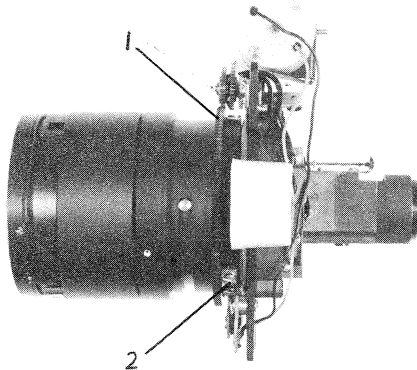

Fig. 39
- 7-2-10. Wrong position of auto-stopper may cause zooming to stop before reaching 34mm and 8.5mm. It will be corrected by moving forward or backward the auto-stopper illustrated in 2 of Fig. 39.
- (1) Disconnection of motor or motor circuitry
- (2) Defective zooming switch
- (3) Operation of zooming mechanism is too tight.